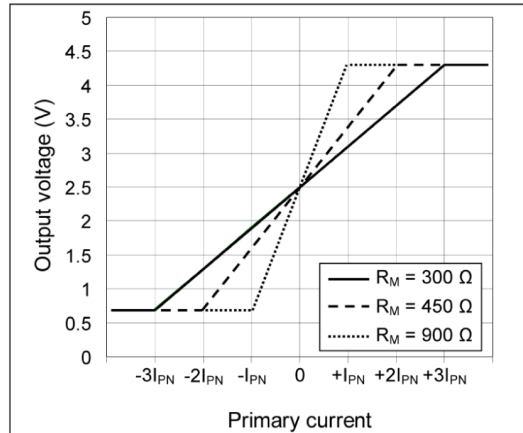

Fig.1: Characteristic of primary current to output voltage according to different R_M . $V_{refout} = 2.5\text{ V}$.
4) Output voltage is scaled by changing R_M but not beyond these limits. See Fig. 1.
- 3) $R_M > 300 \Omega$: reduces I_{PR} but increases G_V . See Fig.1.